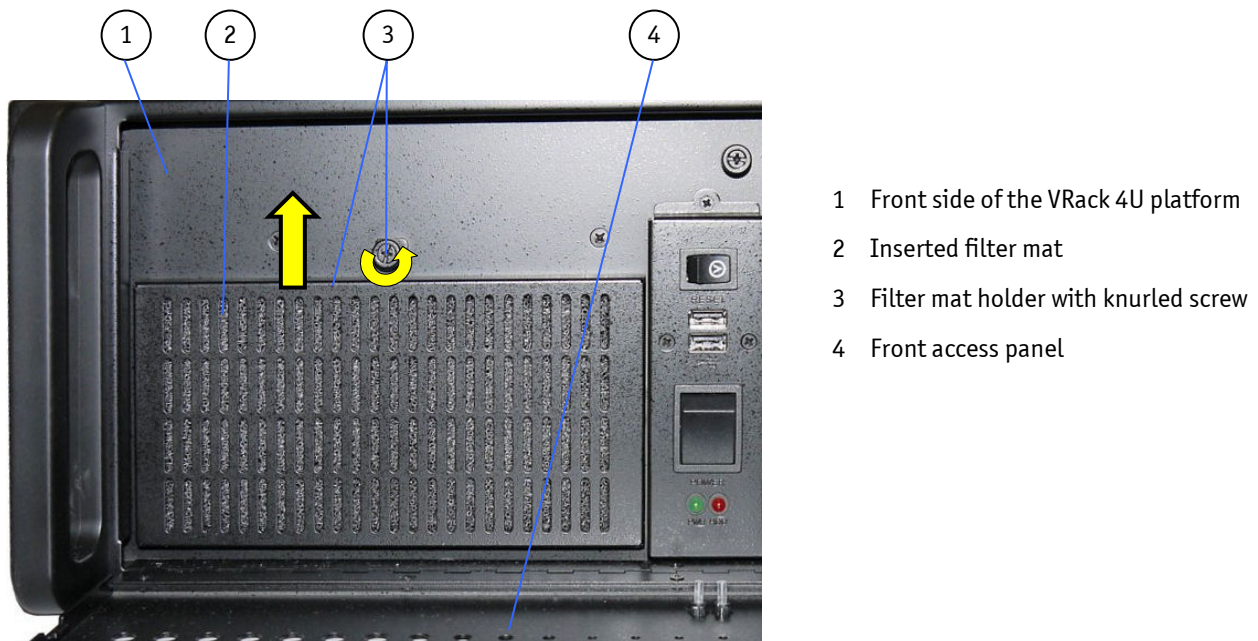
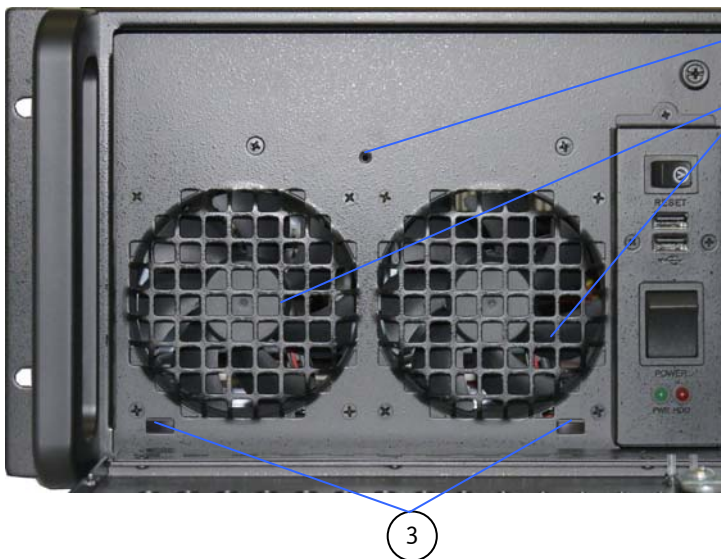
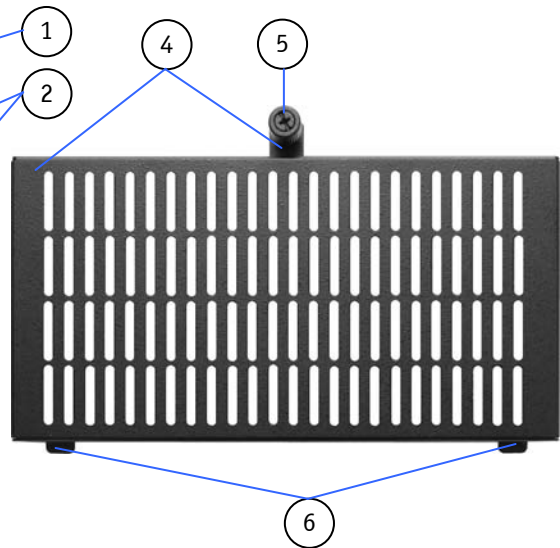
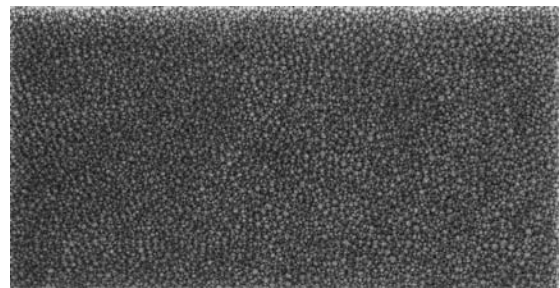

Fig. 21: Detail: Filter mat holder on the front side of the VRack 4U platform
Fig. 22: Detail: without filter mat at the front side
Fig. 23: Filter mat holder without filter mat
Fig. 25: Filter mat
The filter mat (Fig. 21, pos. 2, Fig. 25) is inserted in the filter mat holder (Fig. 21, pos. 3, Fig. 23) at the front side in front of the fans (Fig. 22, pos. 2). The soiling of the filter mat is caused by the pollution of the operating environment. A heavily soiled filter mat can cause excessive heating of the device. For this reason we recommend to clean the filter mat as often as necessary. The filter mat can be changed during operation of the system.
1. Open the front access panel (Fig. 21, pos. 4).
2. Loosen the knurled screw that secures the filter mat holder to the fan slide-in module (Fig. 21, pos. 3 and Fig. 23, pos. 5).
3. Pull the filter mat holder out of the positioning holes (Fig. 22, pos. 3) into the marked direction (see Fig. 21) and lift it off.
4. Remove the soiled filter mat (Fig. 21, pos. 2 and Fig. 25).
7. Reattach the filter mat holder to the front side of the fans by inserting the positioning plates (Fig. 23, pos. 6) into the positioning holes (Fig. 22, pos. 3).
8. Fix the filter mat holder by tightening the knurled screw (Fig. 23, pos. 5) to the bolt with tapped hole (Fig. 22, pos. 1) in front of the fans.
Legend for Fig. 22 and Fig. 23: